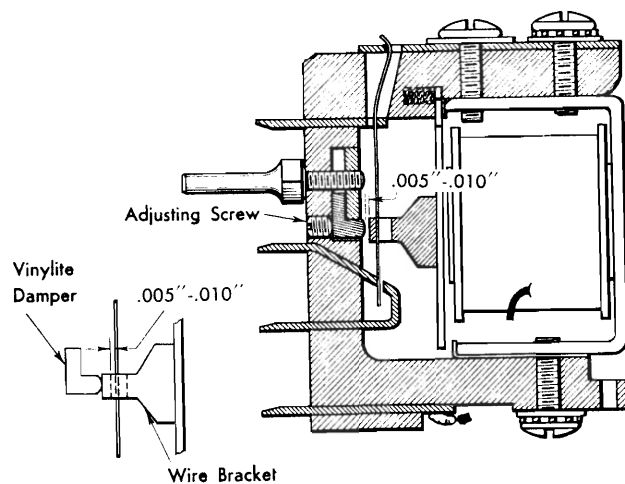

Figure 20
6. Figure 20. The damper screw should be adjusted to allow .005" to .010" movement between the vinylite damper and the wire bracket before the wire bracket can move any contact wire. If the screw is loosened, the vinylite damper must be pressed back into the moulding before checking the clearance between the damper and the wire bracket. Once adjusted at the factory, the damper screw is sealed with cement No. 198896.